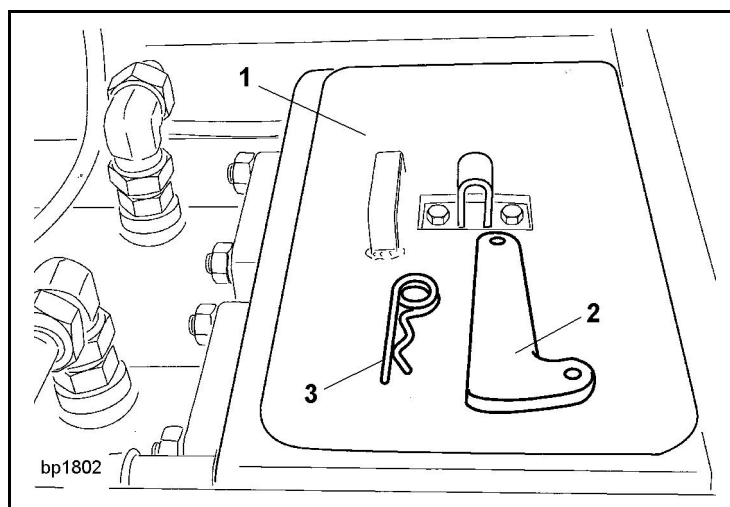
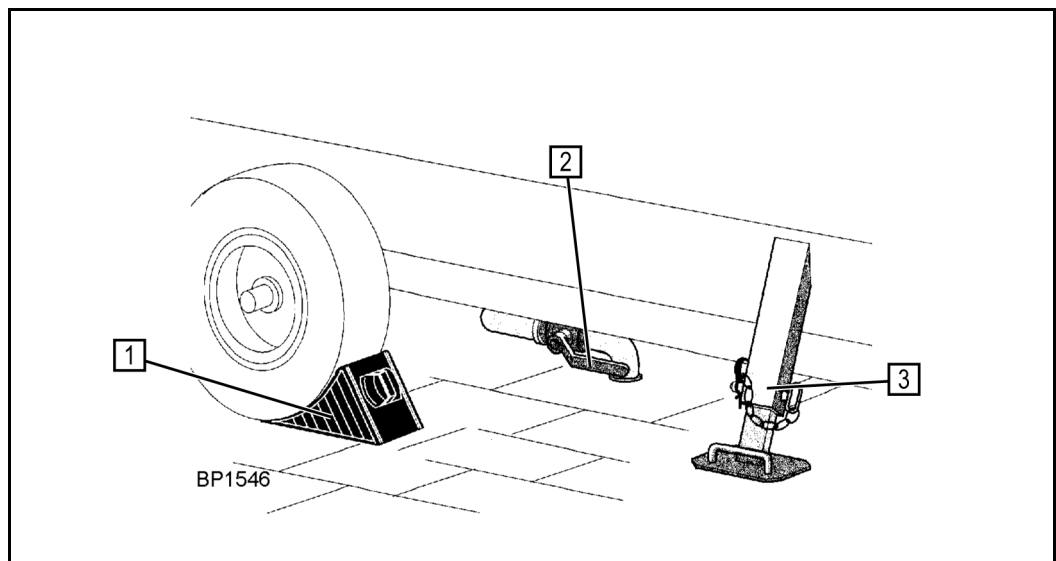

Fig. 100
Fig. 101
- Monitor the water level and contamination in the water box (1) (Fig. 100). Drain any contaminated water using the drain valve (2) (Fig. 101) on the bottom and fill with clean water up to the top edge of the pumping pistons.